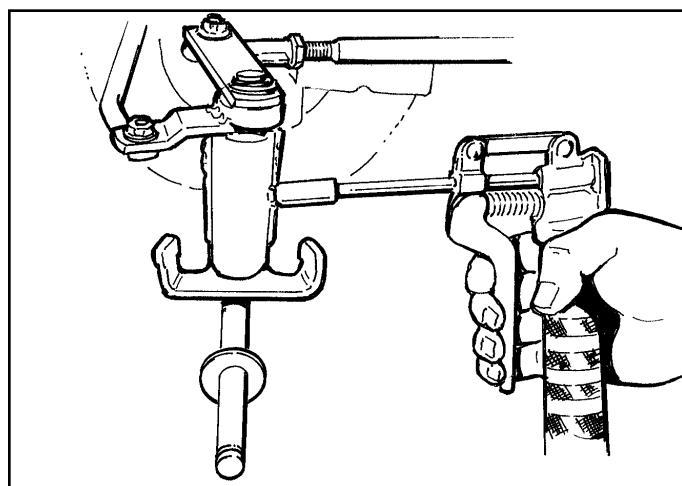

Figure A-15. Grease Wheel Bushings
4. Before reinstalling the wheel and related hardware, grease the spindle bushings using the grease fitting on the front axle assembly (Figure A-15). Use a lithium-base, automotive-quality grease such as that provided with the optional Grease Gun Kit.